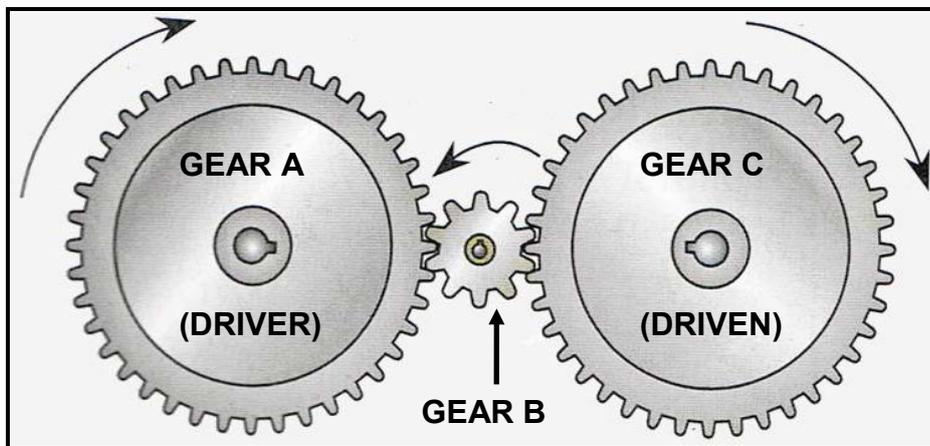

FIGURE 1.5
1.16 FIGURE 1.5 shows a gear train with three gears that mesh. What is gear **B** called?